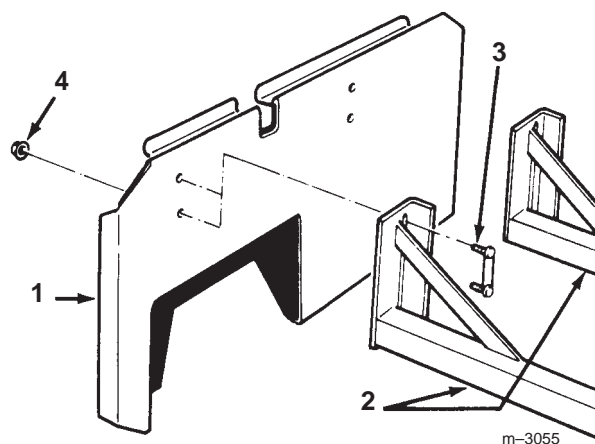

Figure 4
1. Secure the mounting beams to the back panel using 4 retainer bolts and 4 flange nuts (3/8 inch) (Fig. 4).
7. Adjust the back panel height by sliding the retainer bolts up or down in the slots in the mounting beams so that the bag tray is slightly below the bottom of the mower (Fig. 4).